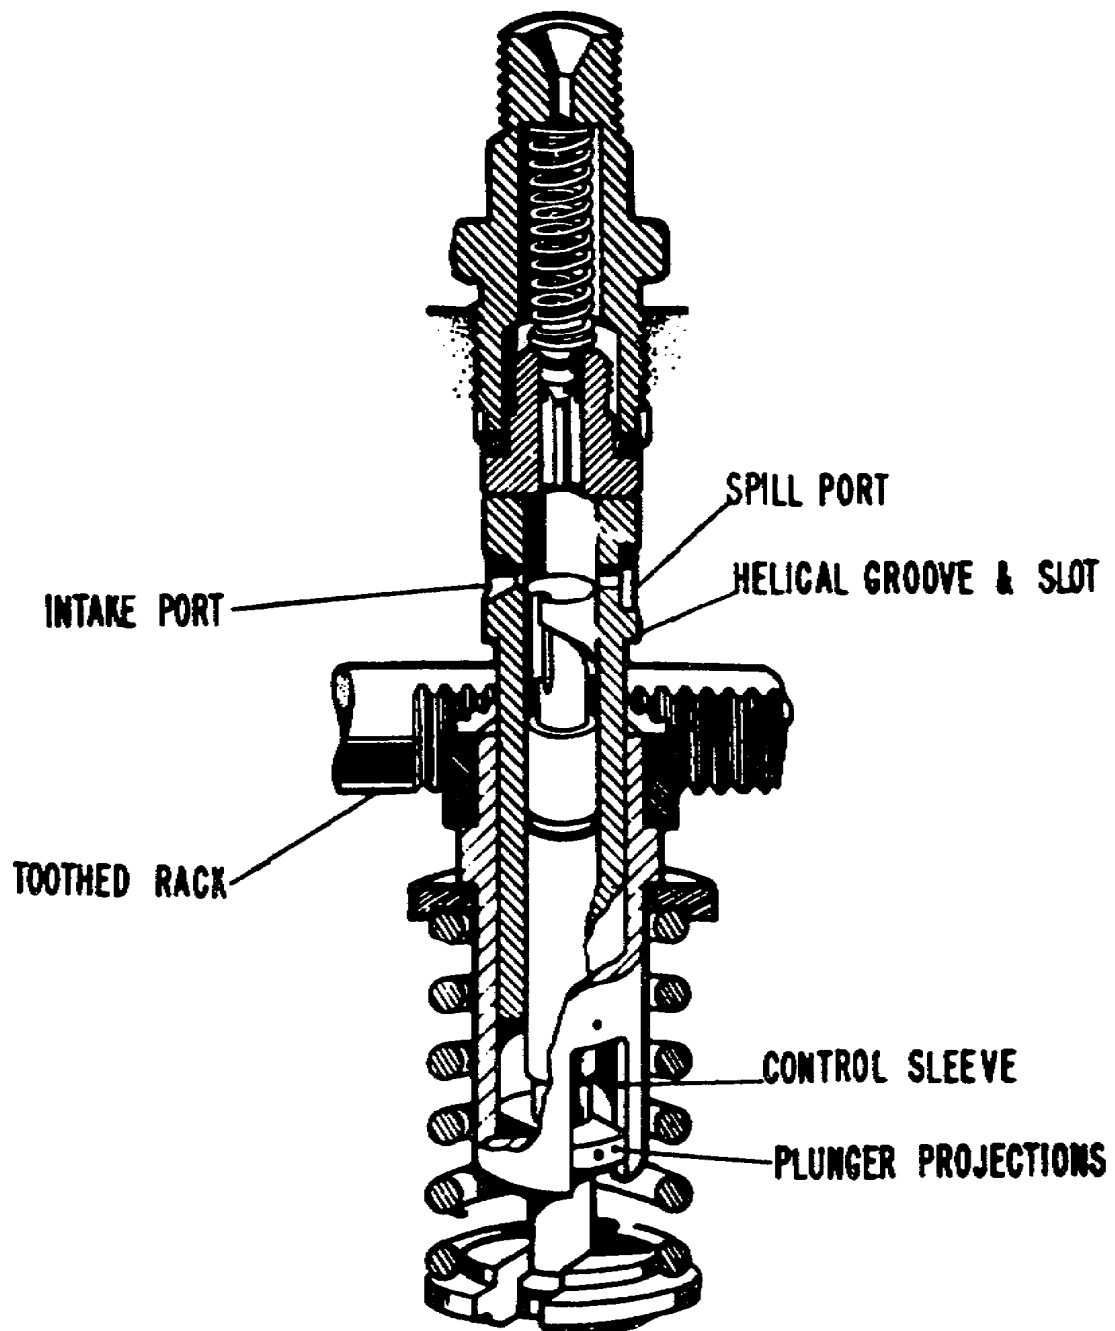
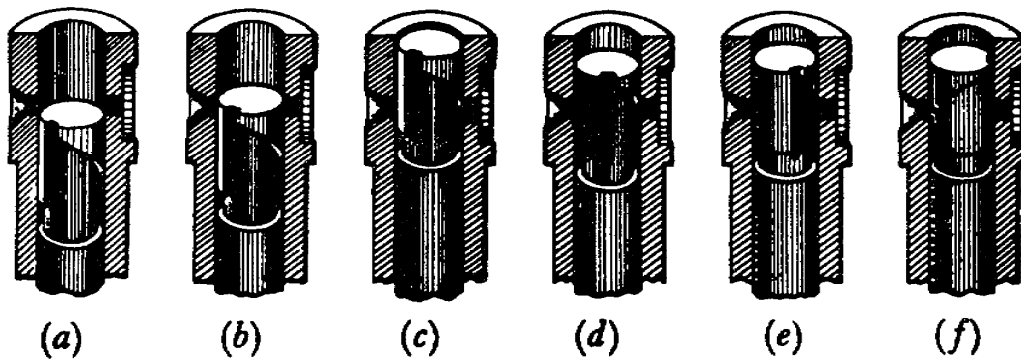

Figure 1.7. Fuel Injection Pump.
Figure 1.8. Fuel Metering.
b. Fuel injection pump. A fuel injection pump, illustrated in figure 1.7, not only creates the injection pressure but determines the amount of fuel injected. Its toothed rack, controlled by the engine governor or by the speed control lever, varies the amount of fuel and actuates all the pump elements. The pump is primarily a piston or plunger, sliding in a barrel. The lower end of the plunger has two projections which engage slots in the control sleeve. Oil enters the intake port and is trapped above the helical groove and slot whenever it rises to cover the spill port. Various positions of the groove and slot are shown in figure 1.8. Position (a) shows the plunger at its lowest point and position (b) shows it when both ports are closed during its rise in the cylinder. Positions (c), (d), and (e) show the plunger when the locomotive